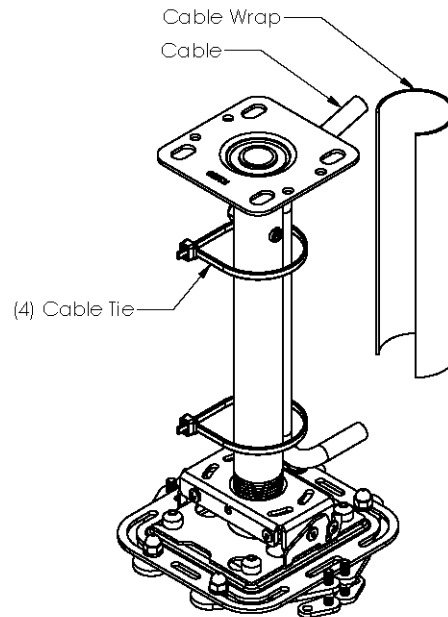

Figure 7. Cable Routing Example
2. Secure cables using cable ties (see Figure 7).